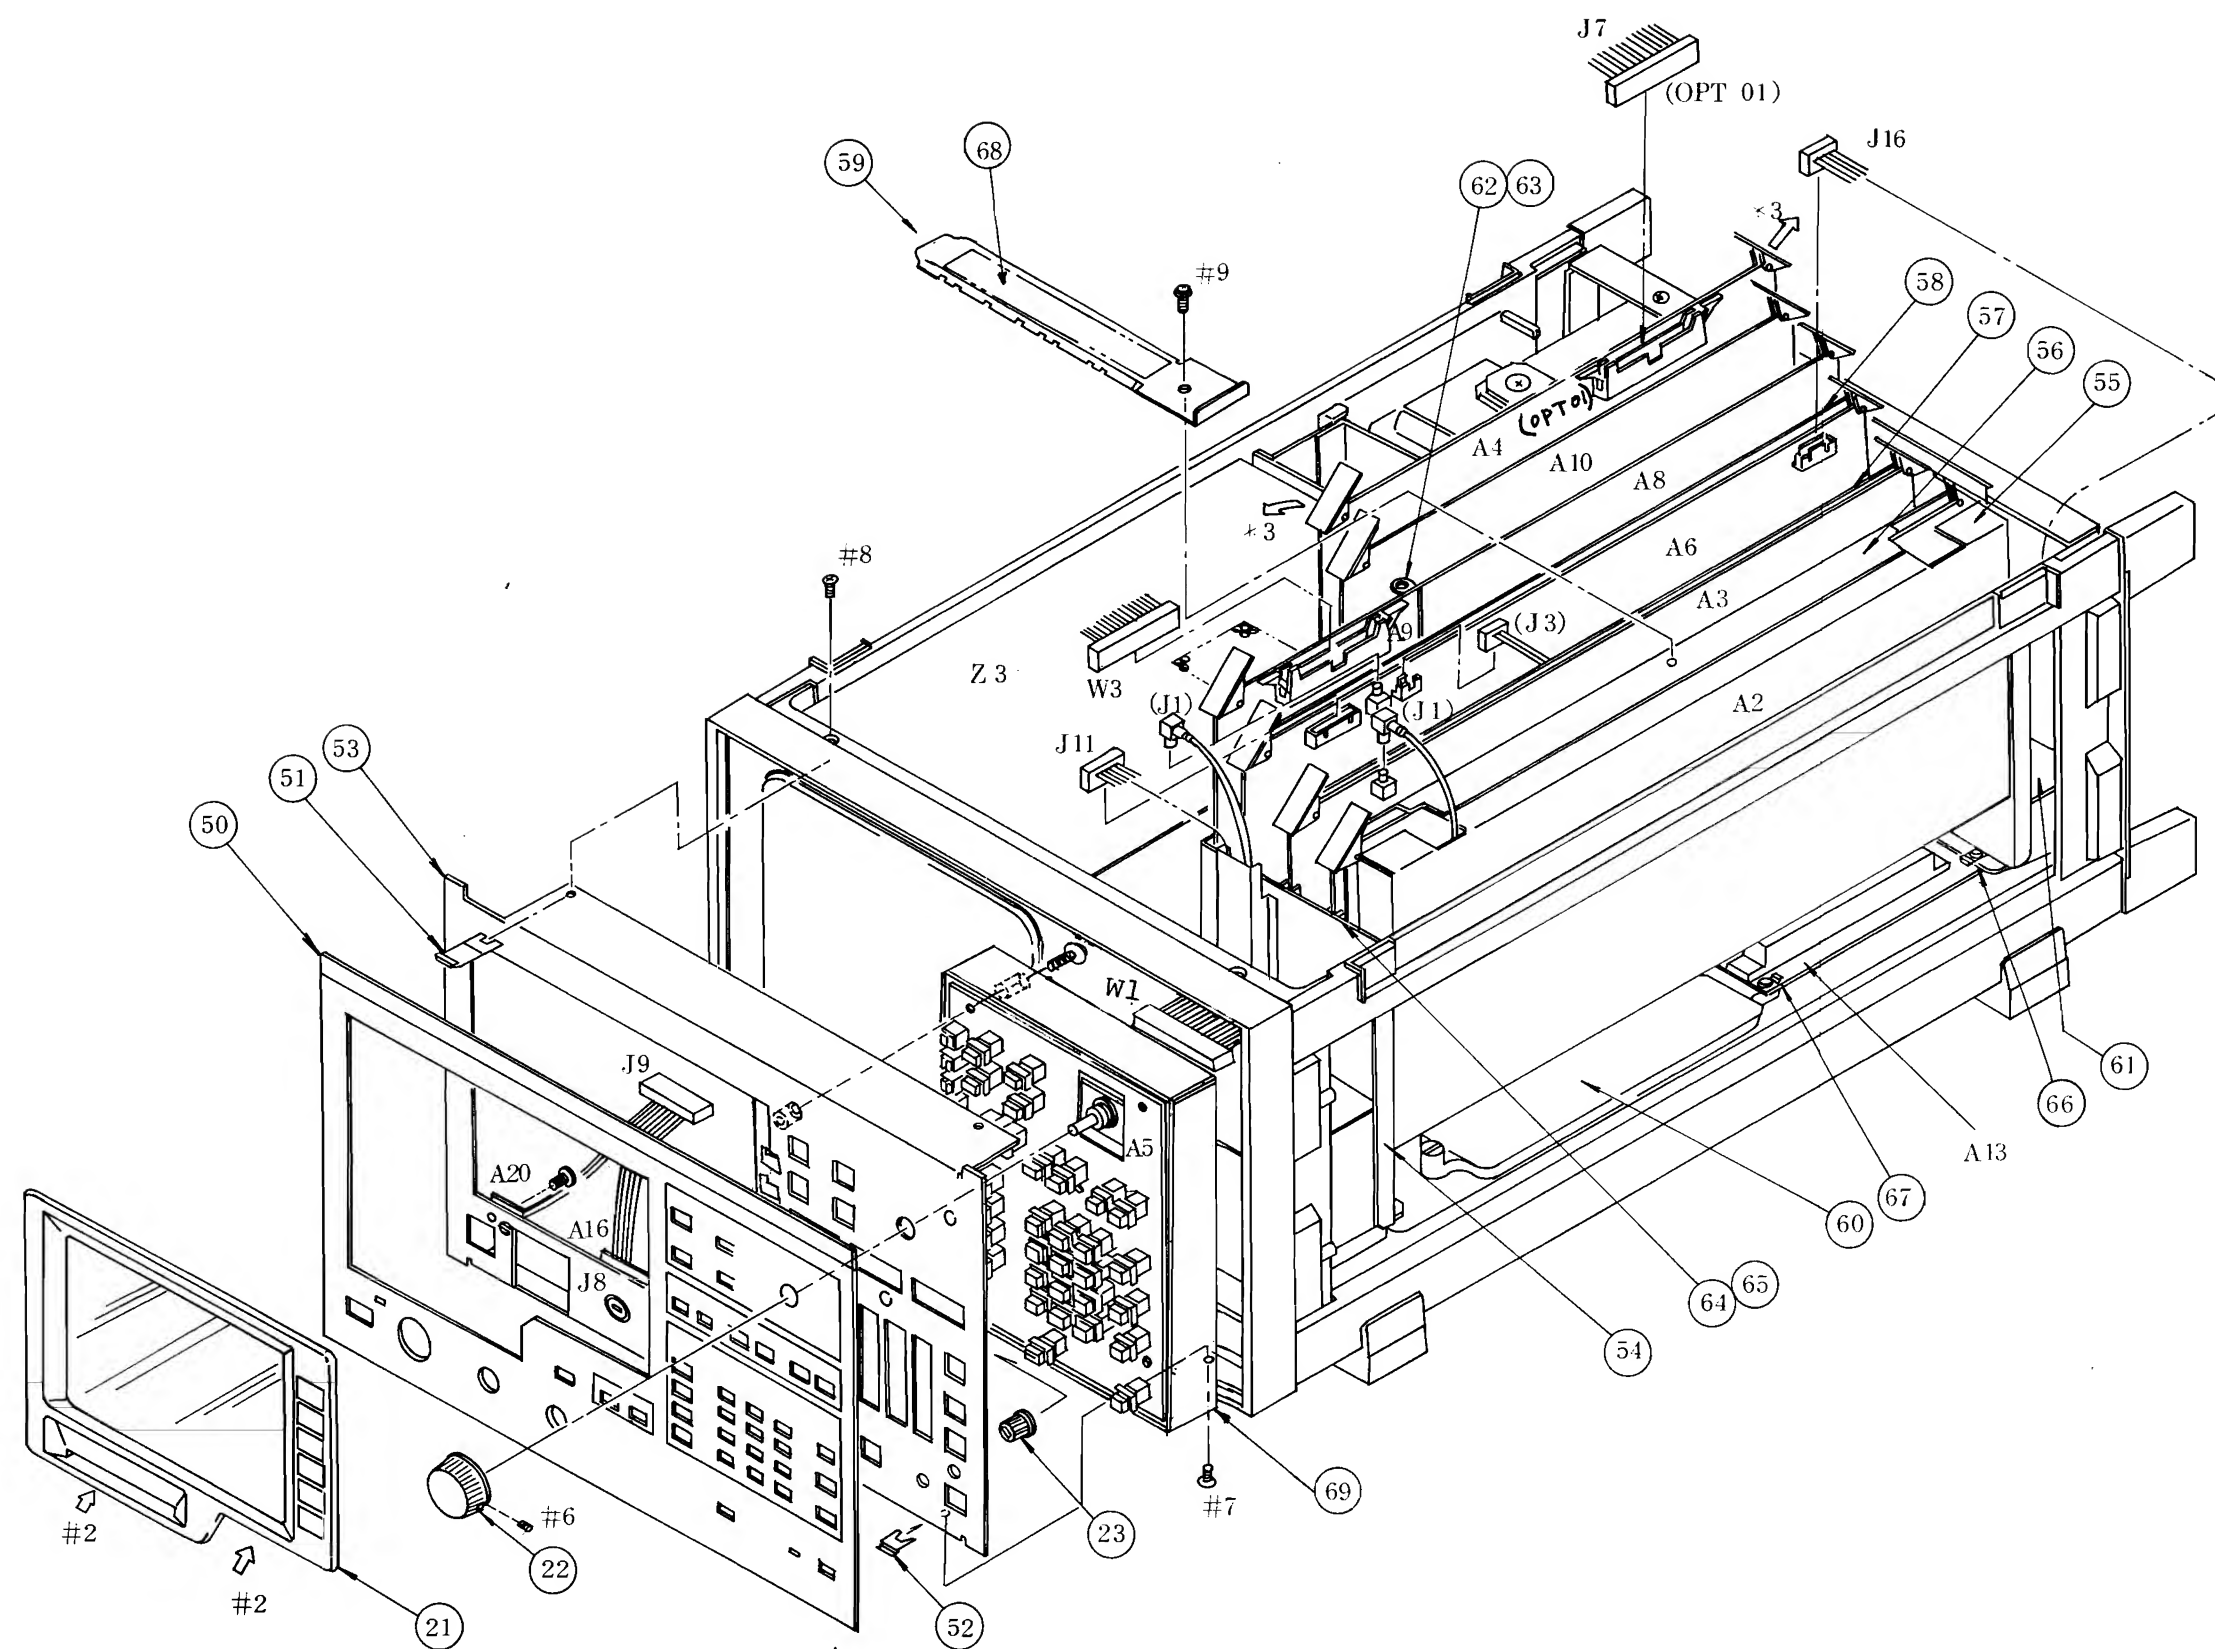
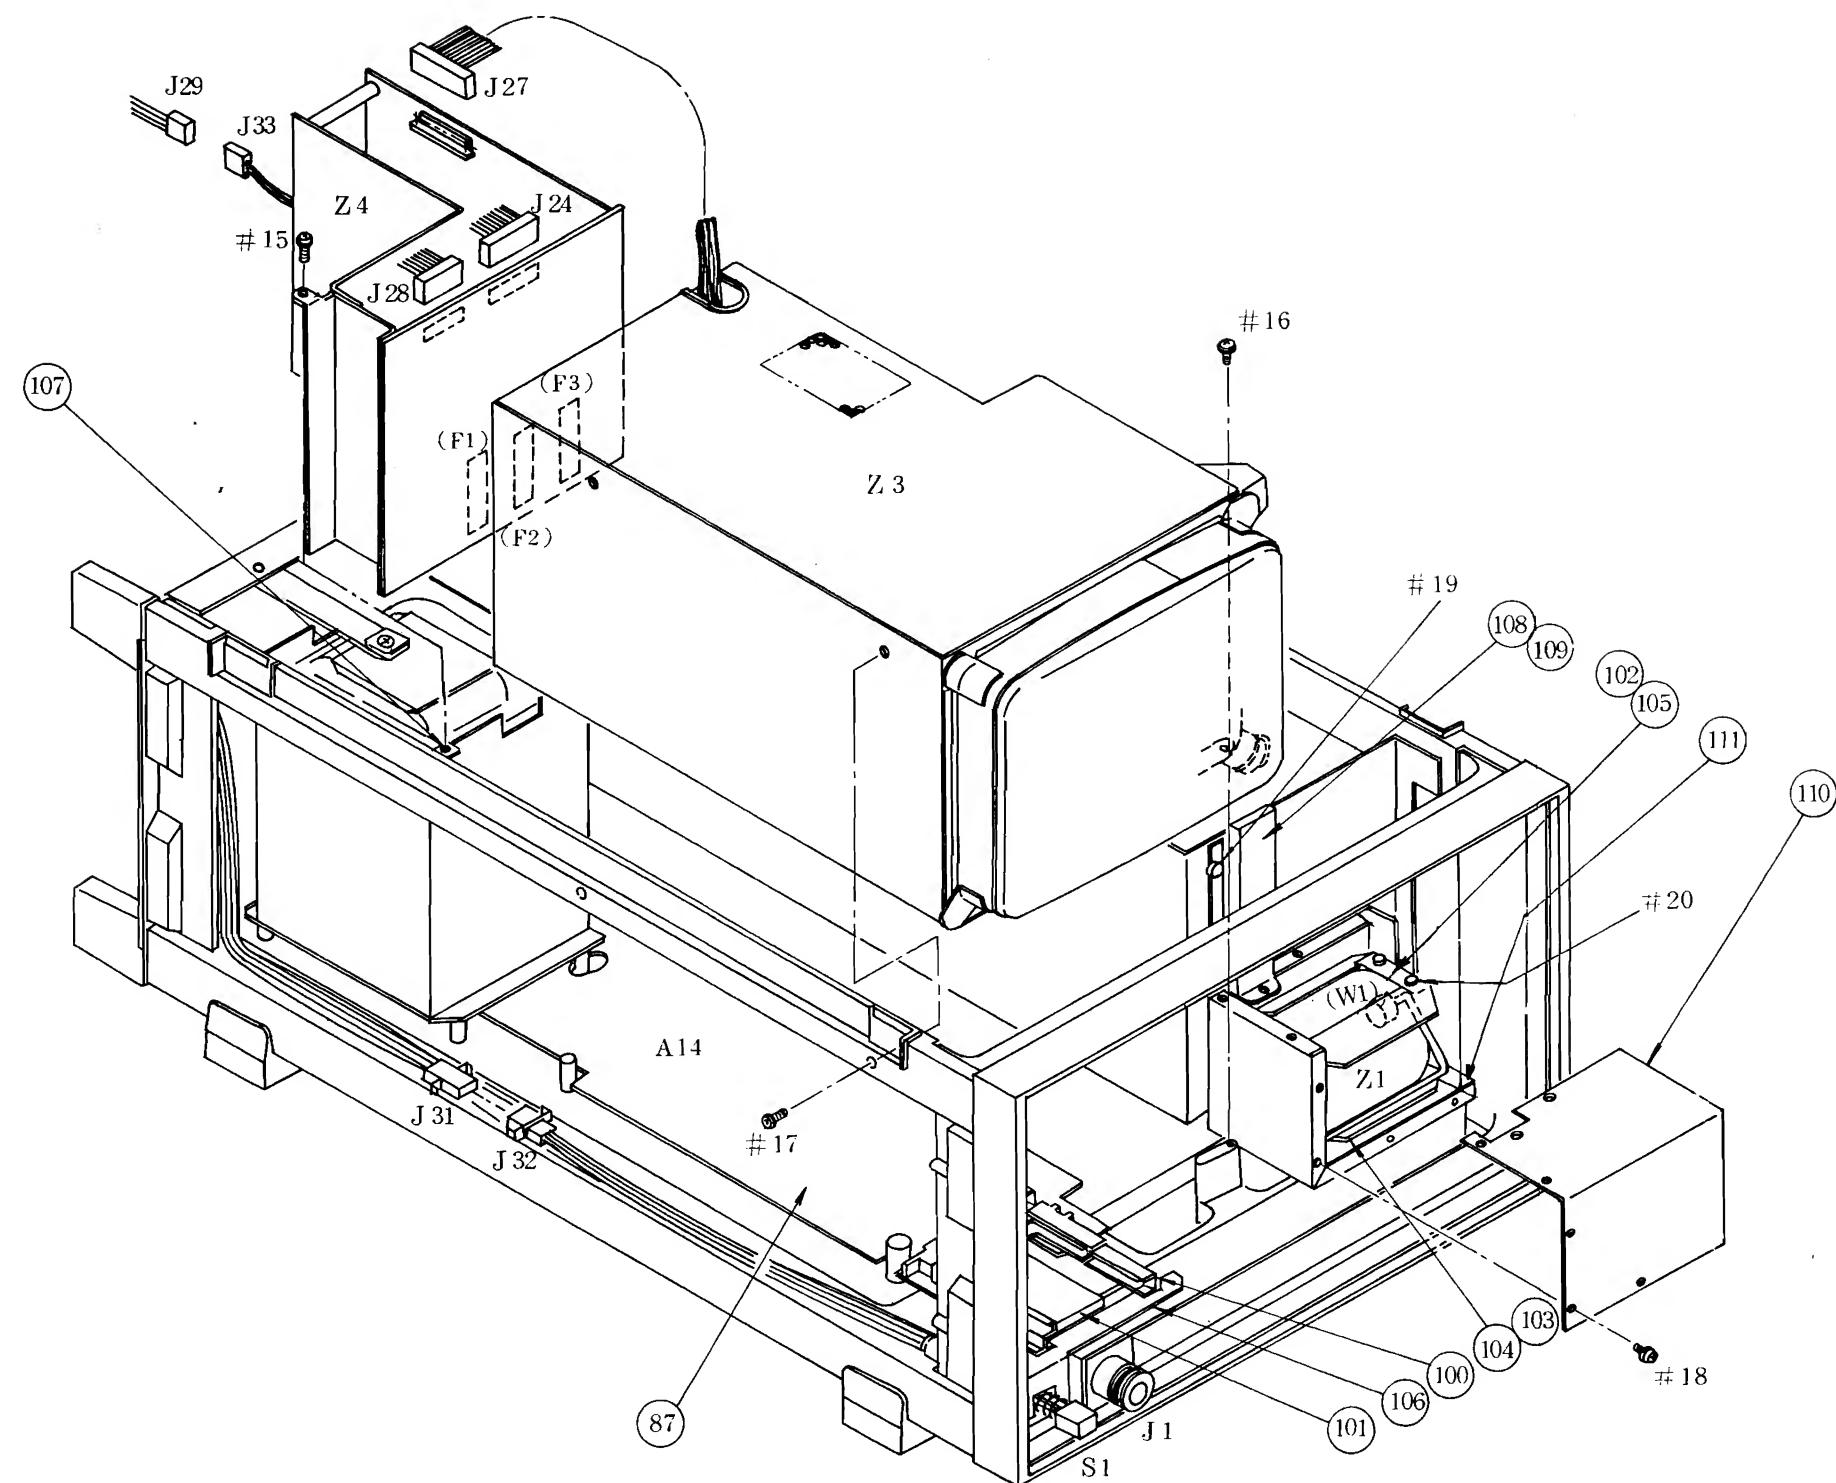

Fig. 2-3 Front Panel/Main Unit
Fig. 2-5 Z3 CRT Unit, Z4 REGULATOR Unit,
1	Remove the CRT cover (21) by pulling it toward you while lifting the part marked with *2 with both hands. (See Fig. 2-3.)
1	Remove two screws #7 at the bottom and two screws at the top by referring to Fig. 2-3 and remove both clamps (51) and (52) .
To remove the above-mentioned unit, remove the top cover (5) as described in paragraph 2.2 and follow the procedures described below. (See Fig. 2-3)
3	Lift the ejector at both sides of the unit as shown in *3 (Fig. 2-3).
The following paragraph describes how to remove the REGULATOR unit and CRT unit with reference to Fig. 2-5.
3	Remove the screw #15 by referring to Fig. 2-5.
2	Remove the Z1 YTO by following the below procedures and referring to Fig. 2-5. <ol style="list-style-type: none">1) Remove the screw #18 and the cover (110) .2) Remove the screw #19 and the upper case (108) .3) Remove the screw #20 and the bracket (105) .4) Remove the support (102) and move the Z1 YTO to the left to remove the W1 connector.5) Remove J11 (Fig. 2-3) .
Table 2-3 Mechanical Parts List for Fig. 2-3